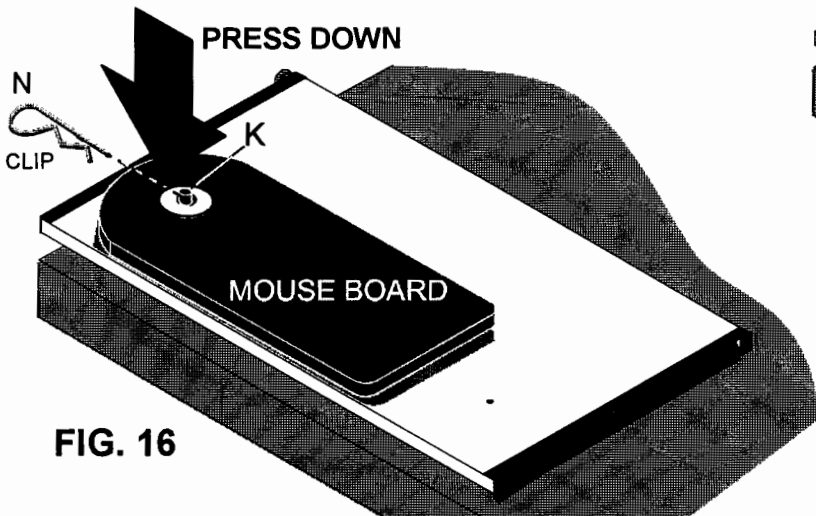

FIG. 16
15. Push down on MOUSE BOARD, hold down firmly to slightly compress BUMPERS and insert CLIP (N) into hole at end of PIN (K) to secure. FIG. 16